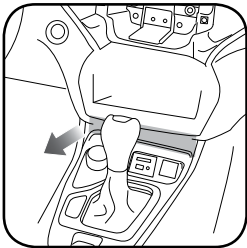

Fig. 2.1
- At the front of the center console, pry off the plastic cover. (Fig. 2.1)